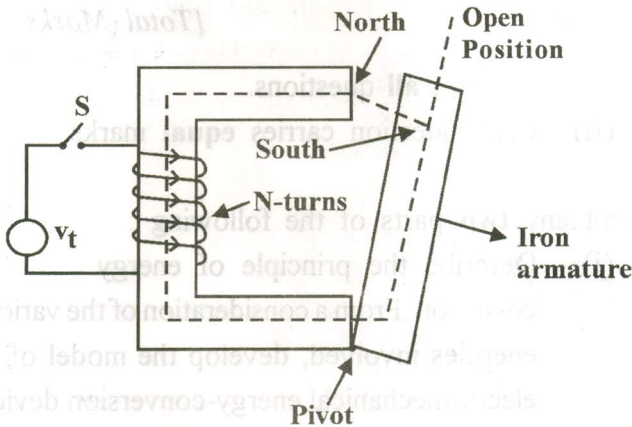

Fig. 1. (b)
- (b) For the simple magnetic relay of Fig. 1. (b),  $1 \times 10$  the variation of flux linkage  $\psi$  in terms of current  $i$  and displacement  $x$  from the open position is given by the relation  $\psi = ix^{1/2}$ ; obtain an expression for the magnetic force.